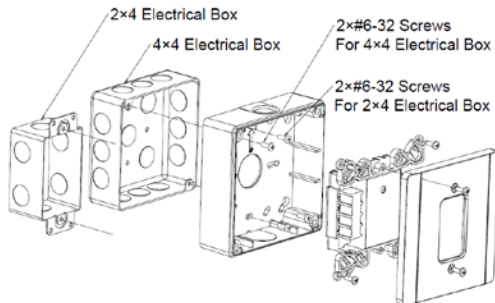

Figure 1. Installation Diagram
1. Mount the FW800 base onto a 2X4 or 4x4 electrical box using the screws provided, as illustrated in Figure 1.